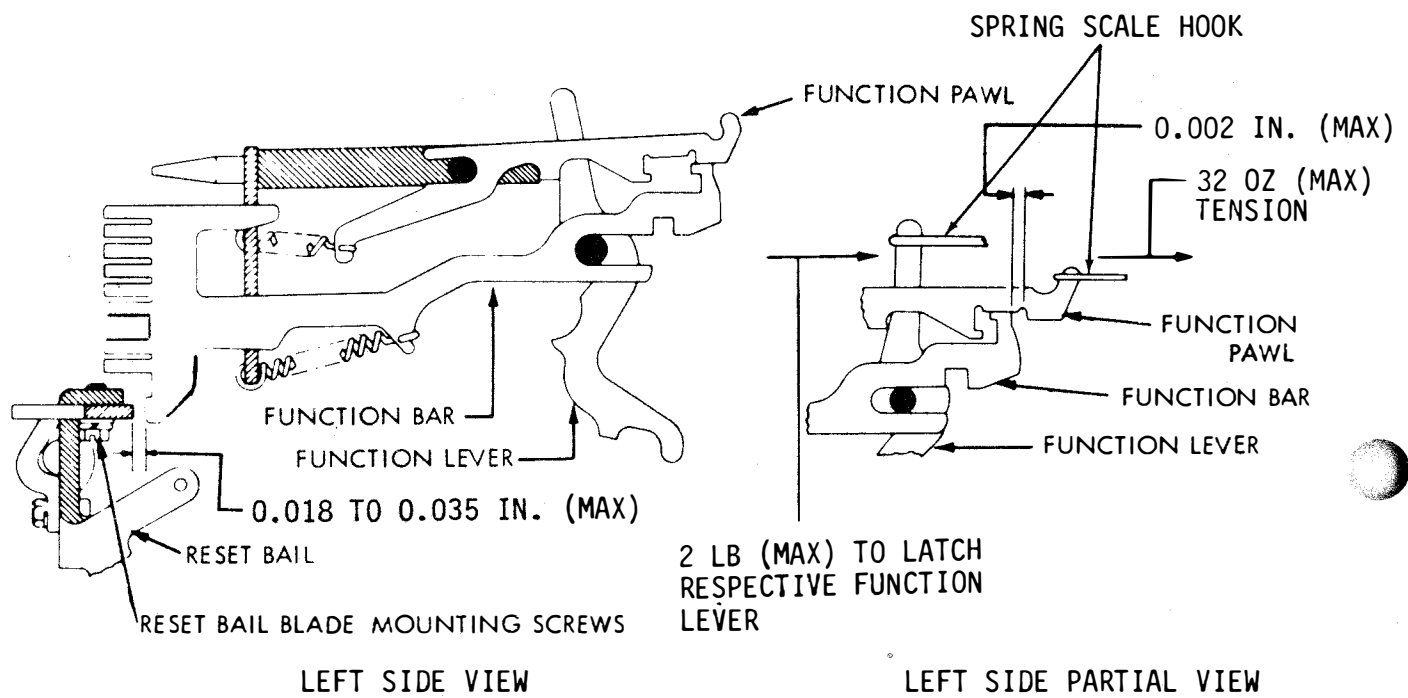

Figure 6-63. Function Reset Bail Blade
- (1) Function Reset Bail Blade. Adjust as follows:
- (a) Refer to Figure 6-63.